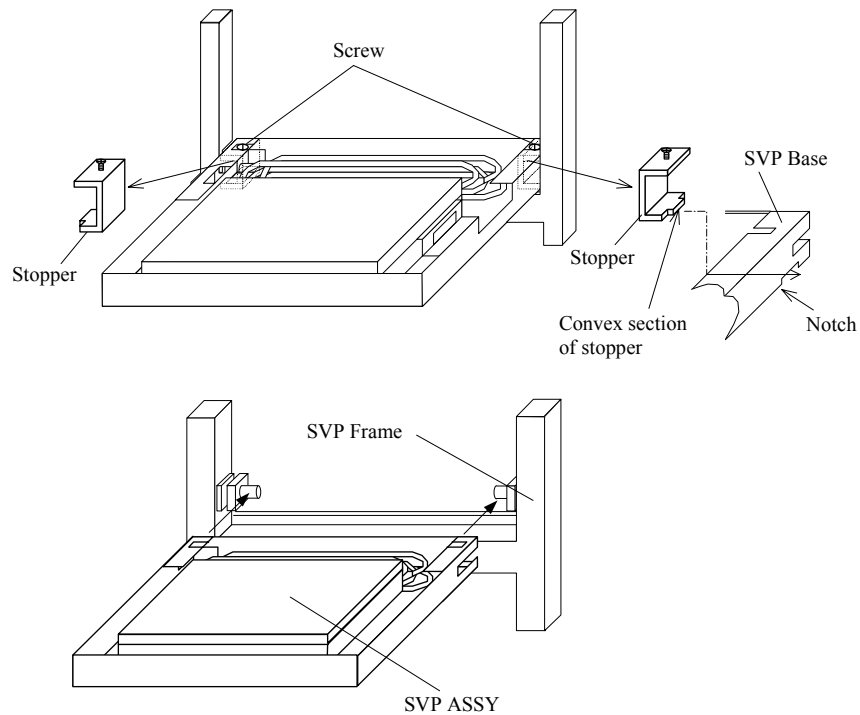

Fig. T7.1-10 Removing and installing the SVP Assy
- c. Install the SVP Assy to the SVP frame and attach the stoppers with screws. At the time, confirm that the convex sections of the stoppers are inserted into the notches of the SVP base. (See Fig. T7.1-10.)
7. Loosen the screws and remove the stopper. (See Fig. T7.1-10 [REP03-530].)
8. Pull out the defective SVP ASSY. (See Fig. T7.1-10 [REP03-530].)
- a. Install the SVP to the SVP ASSY and attach the SVP stoppers with screws. (See Fig. T7.1-10 [REP03-530].)